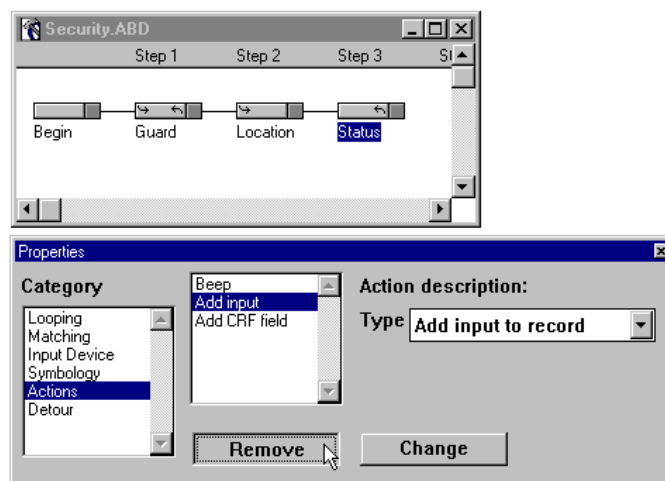
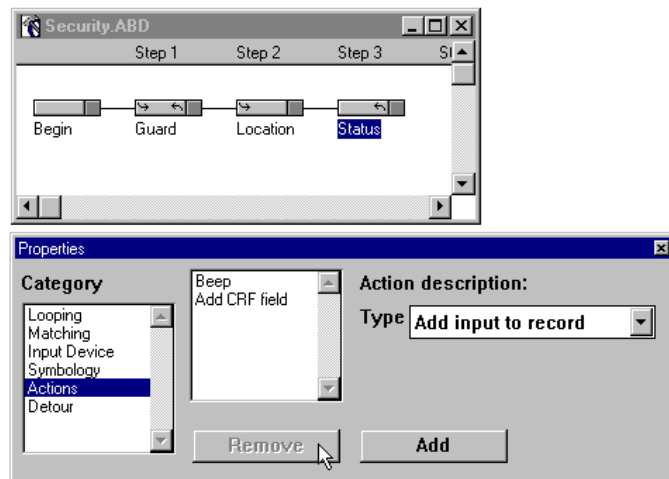

Figure 3-102 Actions Property - Click Remove
Figure 3-103 Actions Property - Add Input Action Removed
l) Click **Remove** (Figure 3-102) and the **Add input** action is removed from the action list (Figure 3-103).